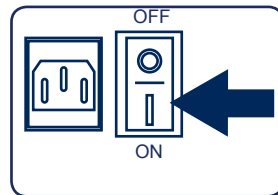

fig. 2
2. Switch the monitor on using the on/off switch on the back of the unit. The green LED should light up. The GastroCH₄ECK monitor will begin a purging process and the LCD should display a start up screen. (Fig. 2)